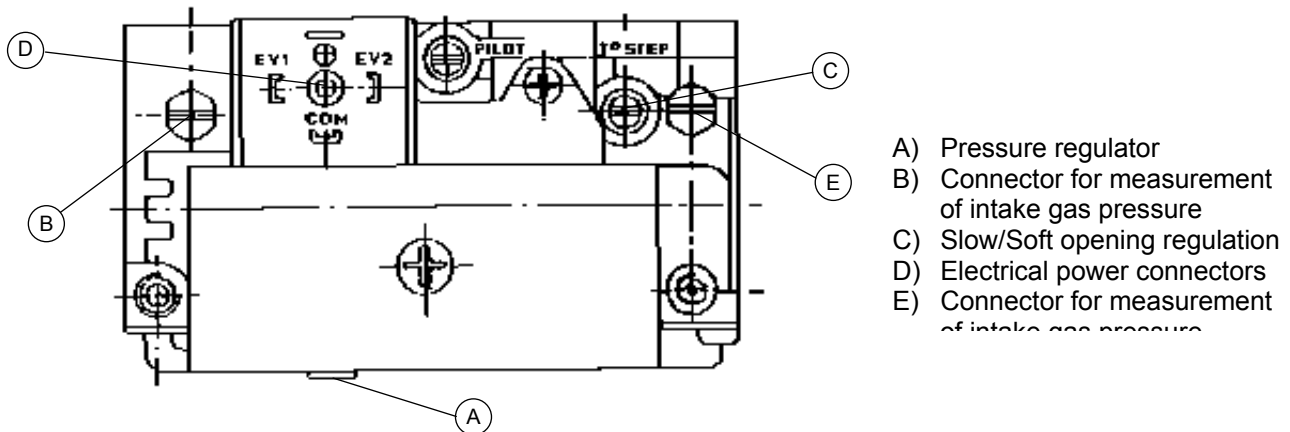

Figure 24 – Sit 830 Tandem Valve (for M 20 C and M 30 C)
3. Remove the protective cover and turn the adjustment screw (see A in Figure 24 or B in Figure 25) clockwise to increase pressure or anticlockwise to reduce it, until the pressure indicated in Table 9 is reached.
Check that the adjustment screw, B, is tightened (see Figure 24 or Figure 25). If it is not, tighten it completely. Pressure at the burner is now directly in relation to the mains gas supply pressure; therefore ensure that mains pressure is 30 mbar (for G30 gas) or 37 mbar (for G31 gas). Mains gas pressure can be reduced by means of a suitable first-stage pressure reduction station, in proximity to the liquid gas tank, in order to reduce the pressure to 1.5 bar, and a second-stage pressure reduction station, from 1.5 bar to 0.03 or 0.037 bar, in proximity to the heater but also outside the building.